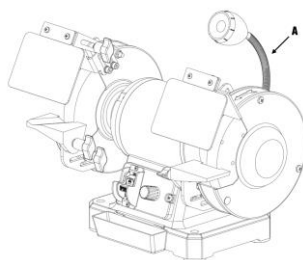

Fig. 9
This tool is equipped with an adjustable lamp (A) that operates independently from the tool (Fig. 9).